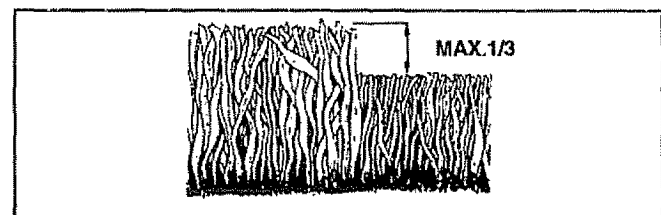

FIG.8
- For best results, adjust the lawn mower cutting height so that the lawn mower cuts off only the top one-third of the grass blades (See Fig. 8). If the lawn is overgrown it will be necessary to raise the height of cut to reduce pushing effort and to keep from overloading the engine and leaving clumps of mulched grass. For extremely heavy mulching, reduce your width of cut by overlapping previously cut path and mow slowly.